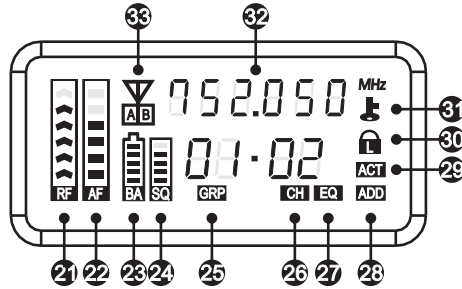

Fig.8
1. Displays functions and parameters, Fig.8: